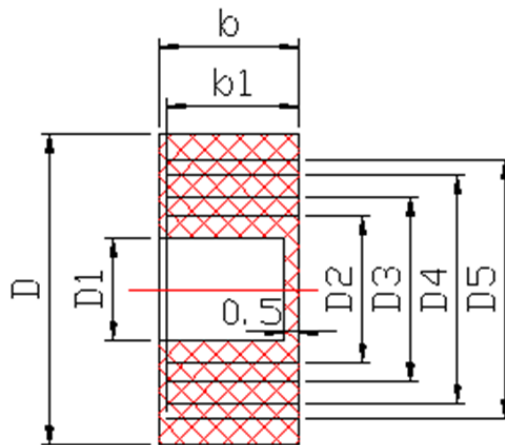

Fig 3
7.2.6 External diameter of the cable should fit bore diameter of the seal ring (Figure 3). The min diameter of cable is D1, max D5, seal ring is of Nitrile rubber NBR specification and dimension see table 4(concentric-ring of seal gasket can be striped off to fit inner diameter of incoming cable). The diameter gap should not exceed 1mm. Clamp the connection plug and ensure that there is no clearance between seal ring and power cable as well as between seal ring and connection box body, otherwise the motor will lose its explosion-proof function.